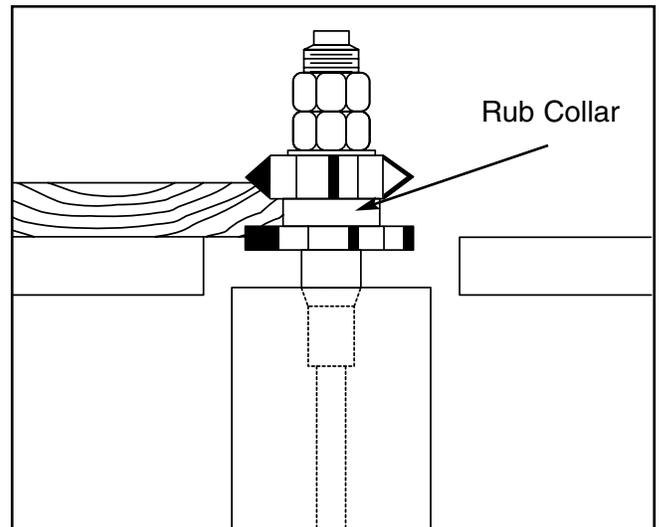

Figure 26. Rub collar between two cutters.
- Using a rub collar between two cutters has the distinct advantage of performing two cuts at once or eliminating the need to change cutters for two different operations. **See Figure 26.** Notice that part of the edge is left uncut. The uncut portion rides on the rub collar.